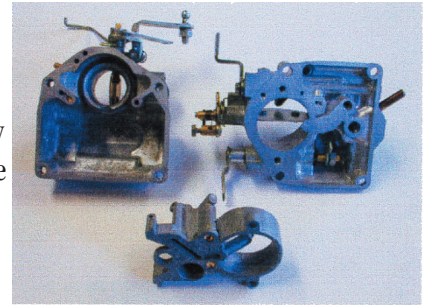
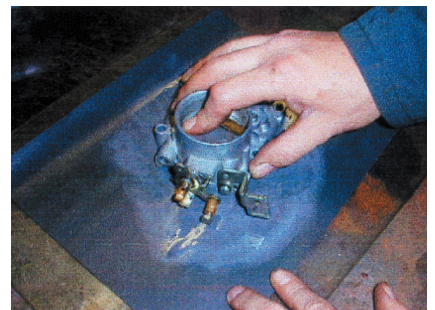

Figure 1
Figure 2
3) Now you are ready to lap the top, bottom, and emulsion block mating surfaces (Figure 1). Lay the sandpaper on the glass and spray with penetrating oil. Take one of the carburetor plates with the mating surface down and sand them in a circular motion (Figure 2). Do this until the surface is flat and free of any defects/no longer warped. Now sand the remaining pieces in the same manner. Once finished, spray each piece with the cleaner, making sure that none of the jets or airports are plugged.